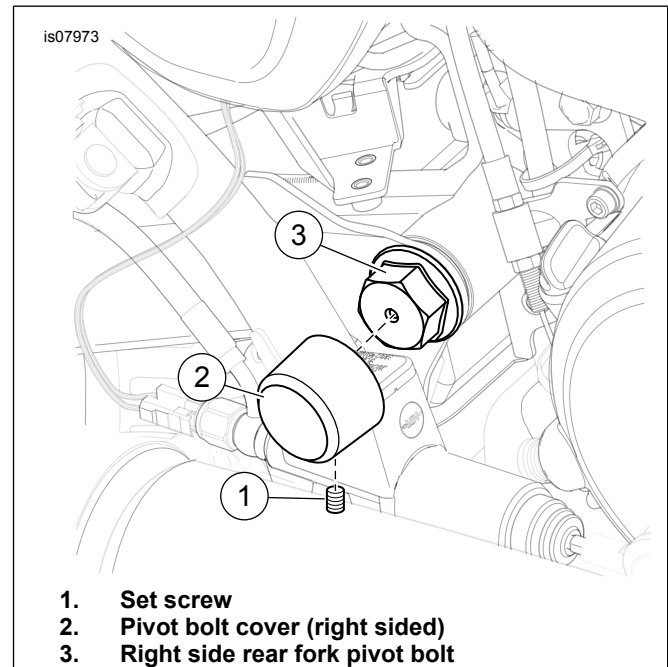

Figure 1. Right Side Pivot Bolt Cover Installation
1. See Figure 1. Start a set screw (1) from the kit into the right side pivot bolt cover (2) about two or three turns.
2. Note the position of the bottom-most flat on the rear fork pivot bolt (3). Line up the pivot bolt cover over the bolt head so the set screw is centered on the hex flat. Tighten the set screw securely to the head of the rear fork pivot bolt.